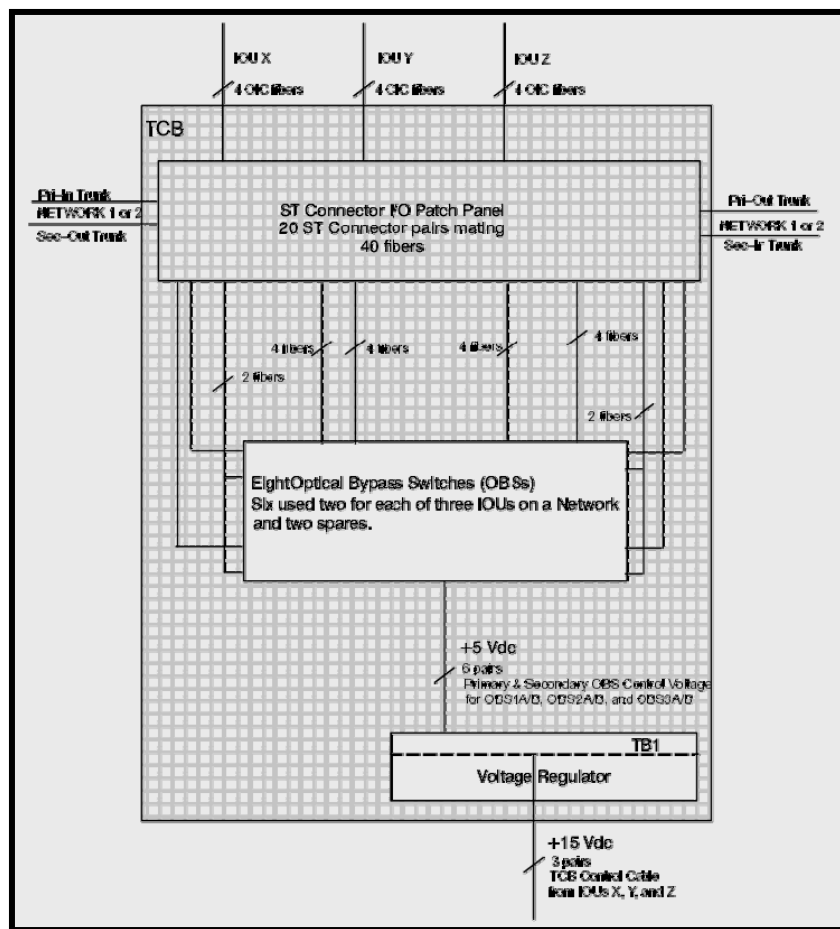

Figure 8-51. Trunk Coupling Box Block Diagram.
Physically, the TCB consists of an Interconnection Box (ICB) (Figure 8-51) that contains the ST patch panel module (has space for 48 couplers of which only 20 are used to connect three IOUs and 4 are used to connect the spare switches (2) connectors), OBS module, voltage regulator module (of which 3 channels are used and the 4th is a spare), and space reserved for future use.